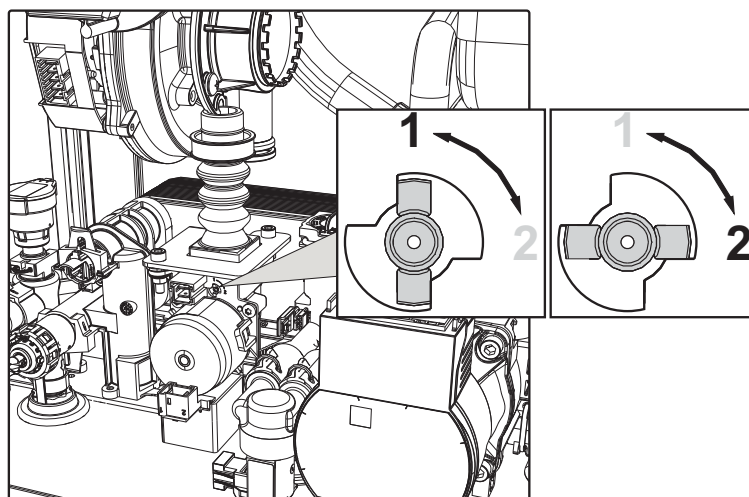

fig. 23
3. Turn the Throttle (fig. 23) according to the position indicated in table 7.